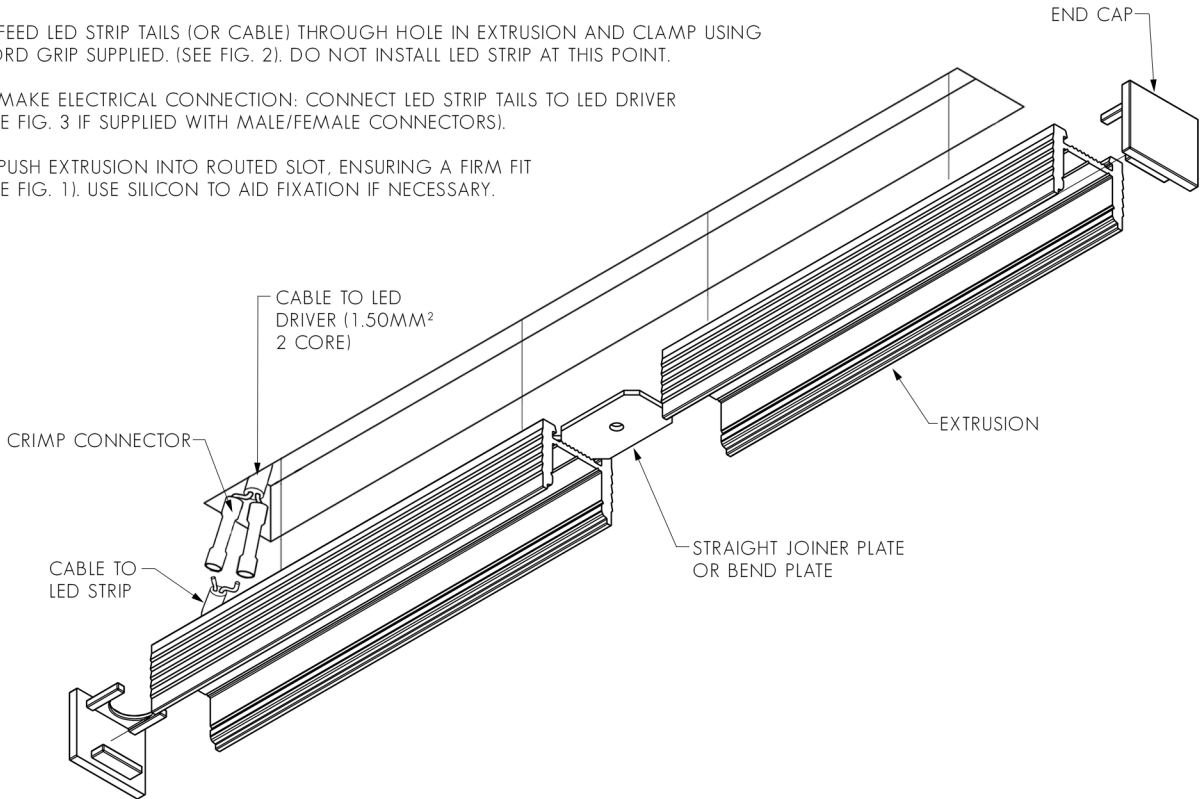

FIG. 1 - ENSURE EXTRUSION IS MOUNTED SECURELY
4. PUSH EXTRUSION INTO ROUTED SLOT, ENSURING A FIRM FIT (SEE FIG. 1). USE SILICON TO AID FIXATION IF NECESSARY.